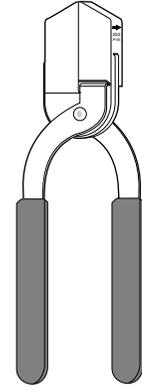

Figure 1
- 1.1 This procedure describes how to strip fiber coating with a 203  $\mu\text{m}$  size No-Nik tool (Figure 1).